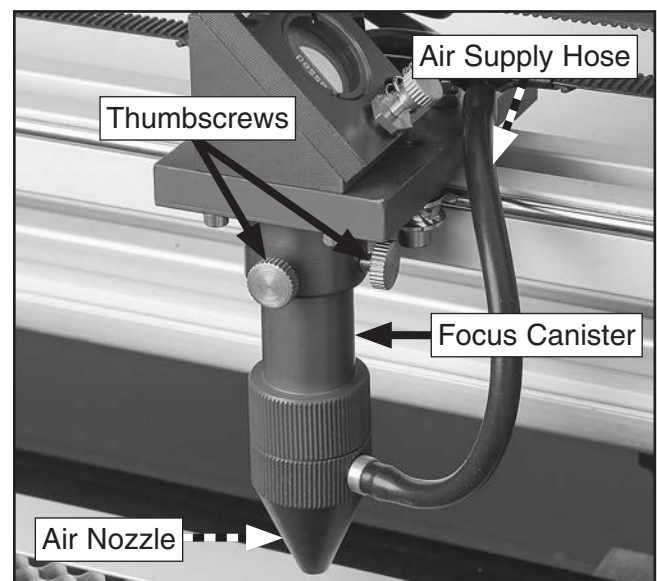

Figure 106. Laser head assembly components.
3. Disconnect air supply hose, loosen air nozzle (see **Figure 106**), and set aside.
4. Loosen thumbscrews and carefully remove focus canister (see **Figure 106**).